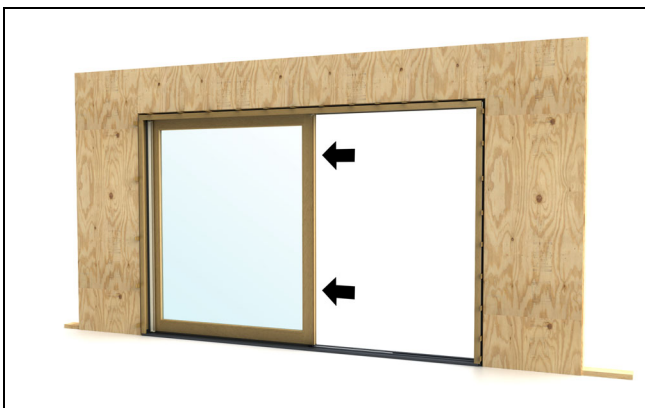

Figure 135
3. Install stationary panel first. Tilt top into place and slide the bottom of the panel onto the sill. Slide stationary panel back close to either jamb. See figure 135.